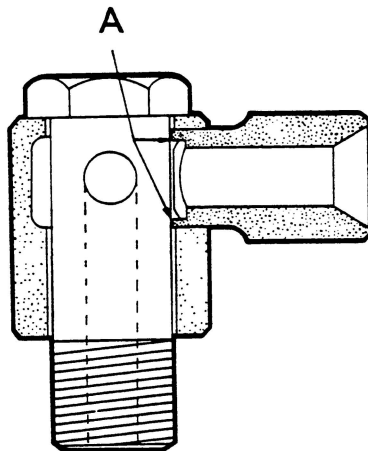

Figure 27. RAM CYLINDER BANJO
- (f) Faulty banjo connection on ram inlet: If inlet pipe protrudes too far through banjo the oil flow will be restricted (Fig. 27).